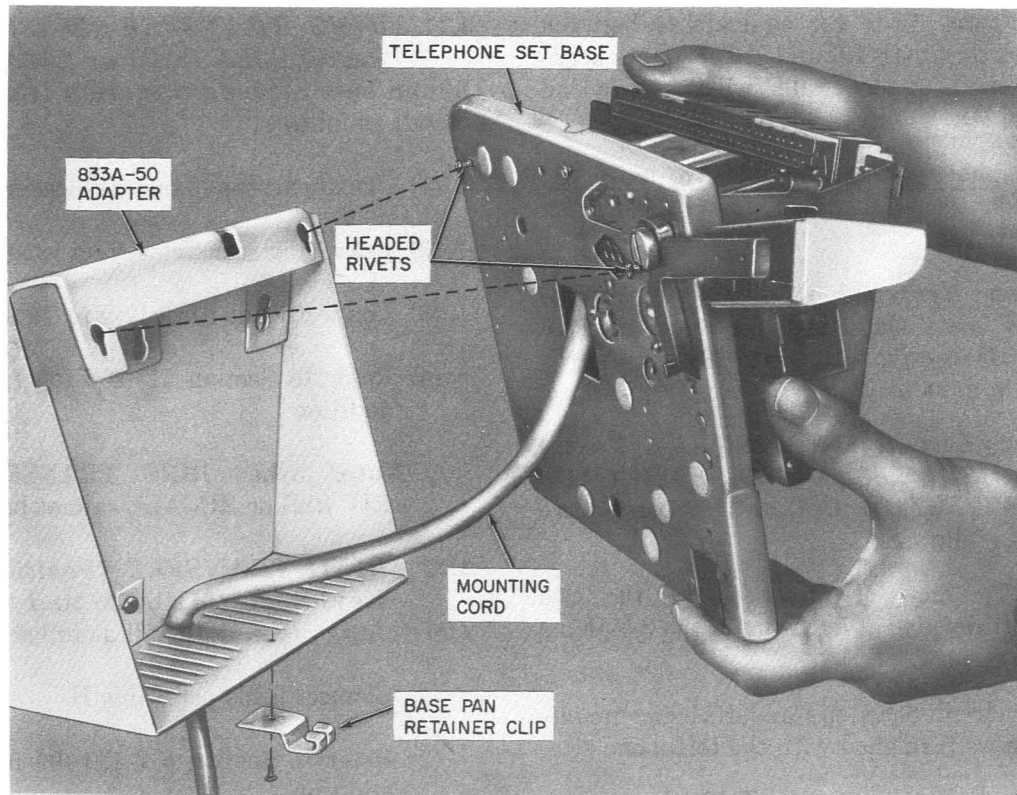

Fig. 6—Mounting Telephone Set Base onto 833A-50 Adapter
(1) Mount the adapter to the wall or vertical surface as shown in Fig. 6, using appropriate fasteners (Section 080-720-105). If the mounting cord is to be dressed down the wall, it is necessary to pass the cord through the notch in the adapter before final attachment of the adapter to the wall. If the cabling enters through the wall, the mounting cord may be contained within the adapter.
(2) Remove faceplate and housing from telephone set. Use a KS-21107 type releaser or equivalent to release the faceplate catch.
(3) Hang the telephone set on the adapter from the headed rivets that protrude from the base pan (Fig. 6).